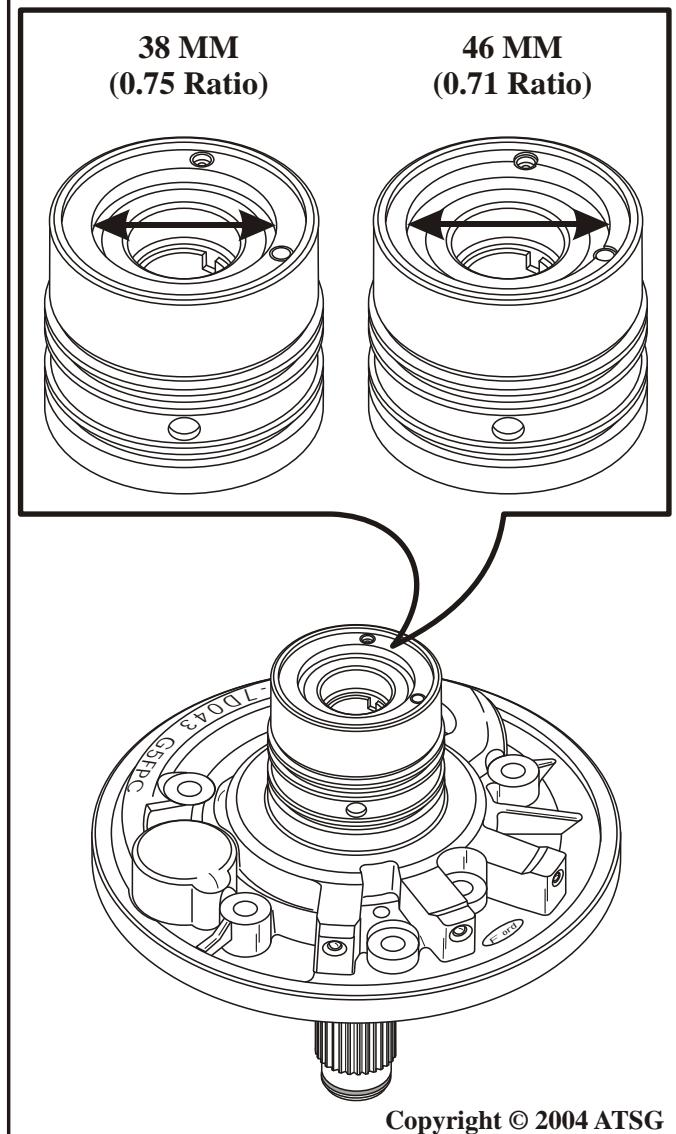

Figure 56
3. Inspect all oil pump parts thoroughly for any wear and/or damage. *Note: If replacement of pump support is necessary, see Figure 56.*